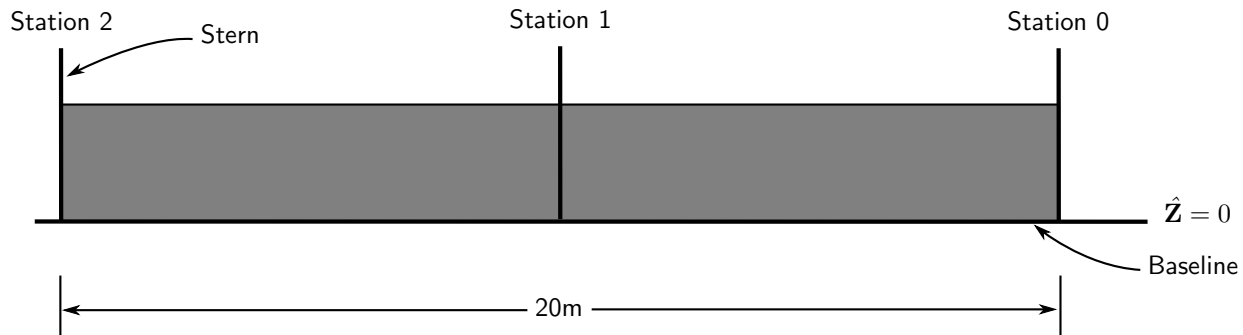

Figure 5: The length of the vessel, the baseline relative to the hull geometry, and the location of each station specified.
- ☞ Hull geometry is defined relative to the baseline and a number of equidistant stations that span from the bow to the aft of the vessel as shown in Figure 5.